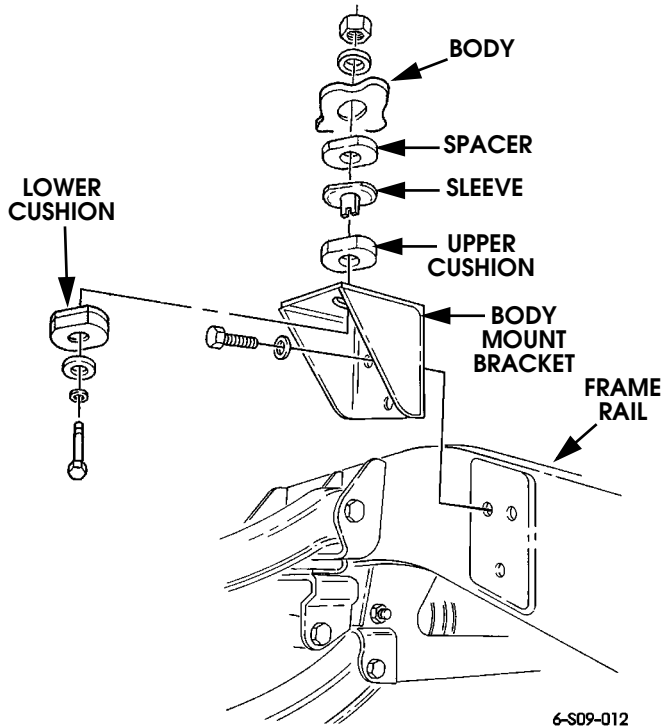

Figure 9-143: Right Intermediate Body Mount Bracket Replacement
2. Remove three bolts, washers, and body mount bracket from frame rail (Figure 9-143).
1. Apply thread-locking compound to three bolts and install body mount bracket on frame rail with three washers and bolts. Tighten bolts to 90 lb-ft (122 N•m) (Figure 9-143).